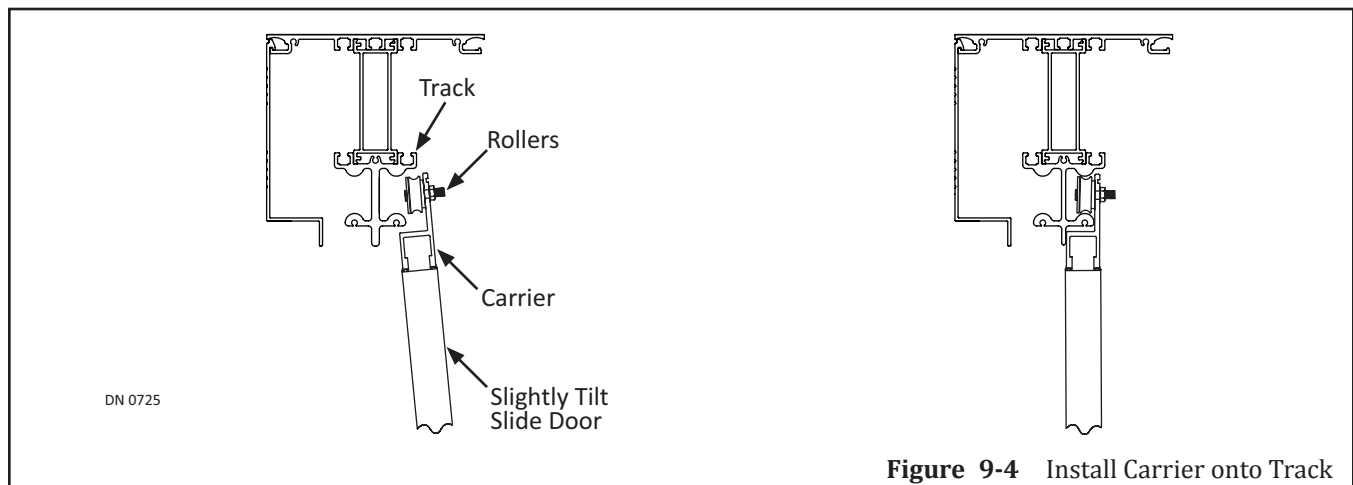

**Figure 9-2** Carrier with Rollers
1. Go to The Carrier located on Top Rail. Loosen nut on each Hanger Roller with a 1/2" open end Wrench. Please see Figure 9-2.